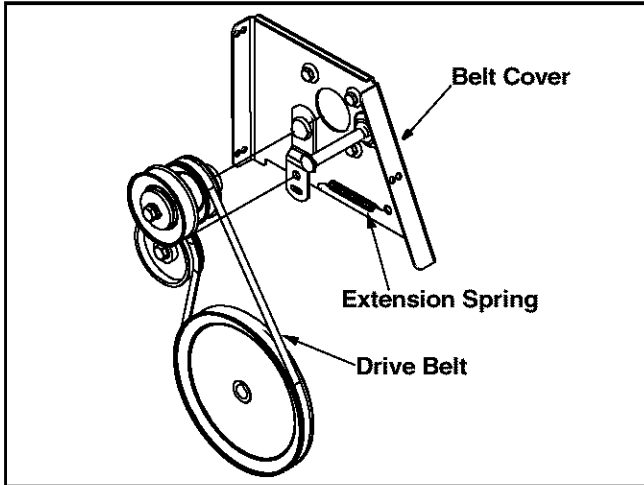

Figure 21
- Unhook the extension spring from the belt cover plate. See Figure 21.
- Remove drive belt from the engine pulley and bottom drive pulley. Refer to Figure 21